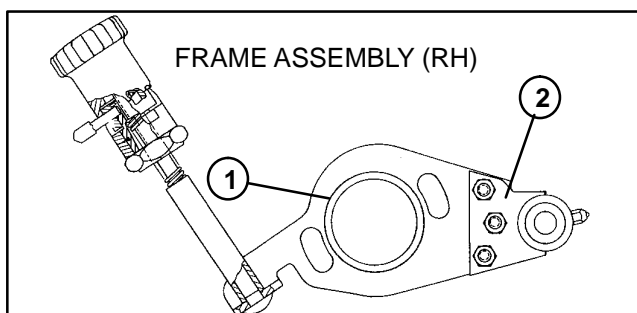

Figure 27
7. Install frame assembly (RH) onto the right reel bearing housing using the following procedure (Fig. 27):